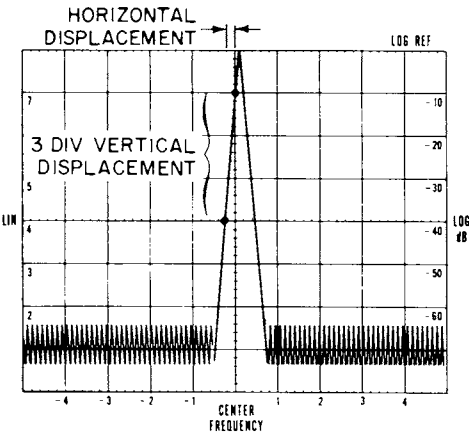

Figure 4-14. Demodulation Sensitivity Measurement
3. Refer to Figure 4-14. Tune FREQUENCY so that the upward slope of the display intersects the CENTER FREQUENCY graticule line one division from the top.